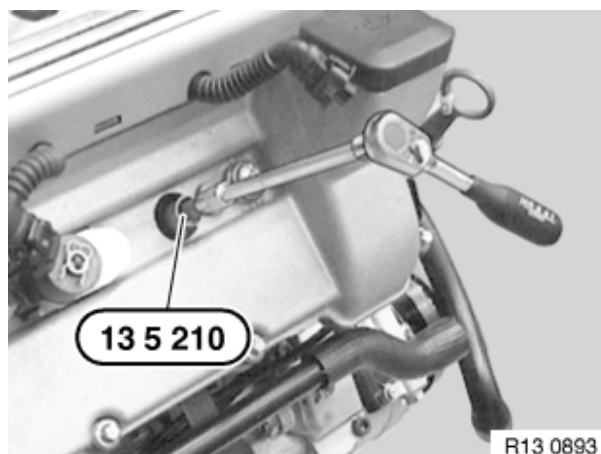

Figure 6-13
8. Use a socket wrench to turn tool while applying light pressure (**Figure 6-13**).